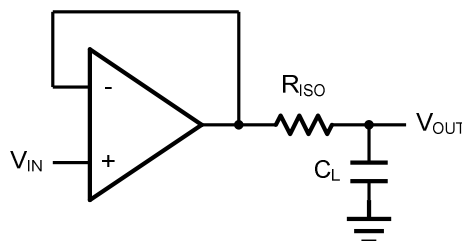
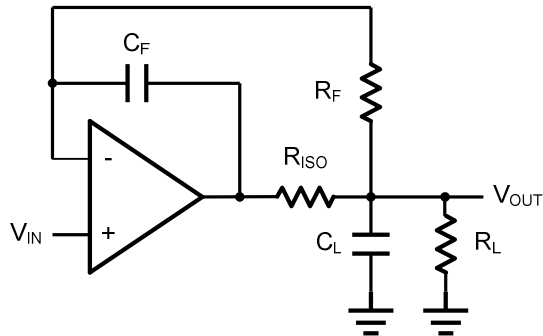

Figure 2. Indirectly Driving a Capacitive Load Using Isolation Resistor
Figure 3. Indirectly Driving a Capacitive Load with DC Accuracy
The LMV602 is optimized for bandwidth and speed, not for driving capacitive loads. Output capacitance will create a pole in the amplifier's feedback path, leading to excessive peaking and potential oscillation. If dealing with load capacitance is a requirement of the application, the two strategies to consider are (1) using a small resistor in series with the amplifier's output and the load capacitance and (2) reducing the bandwidth of the amplifier's feedback loop by increasing the overall noise gain. Figure 2. shows a unity gain follower using the series resistor strategy. The resistor isolates the output from the capacitance and, more importantly, creates a zero in the feedback path that compensates for the pole created by the output capacitance.
The circuit in *Figure 3* is an improvement to the one in *Figure 2*. R_F provides the DC accuracy by feed-forward the V_{IN} to R_L . C_F and R_{ISO} serve to counteract the loss of phase margin by feeding the high frequency component of the output signal back to the amplifier's inverting input, thereby preserving the phase margin in the overall feedback loop. Capacitive drive can be increased by increasing the value of C_F . This in turn will slow down the pulse response.